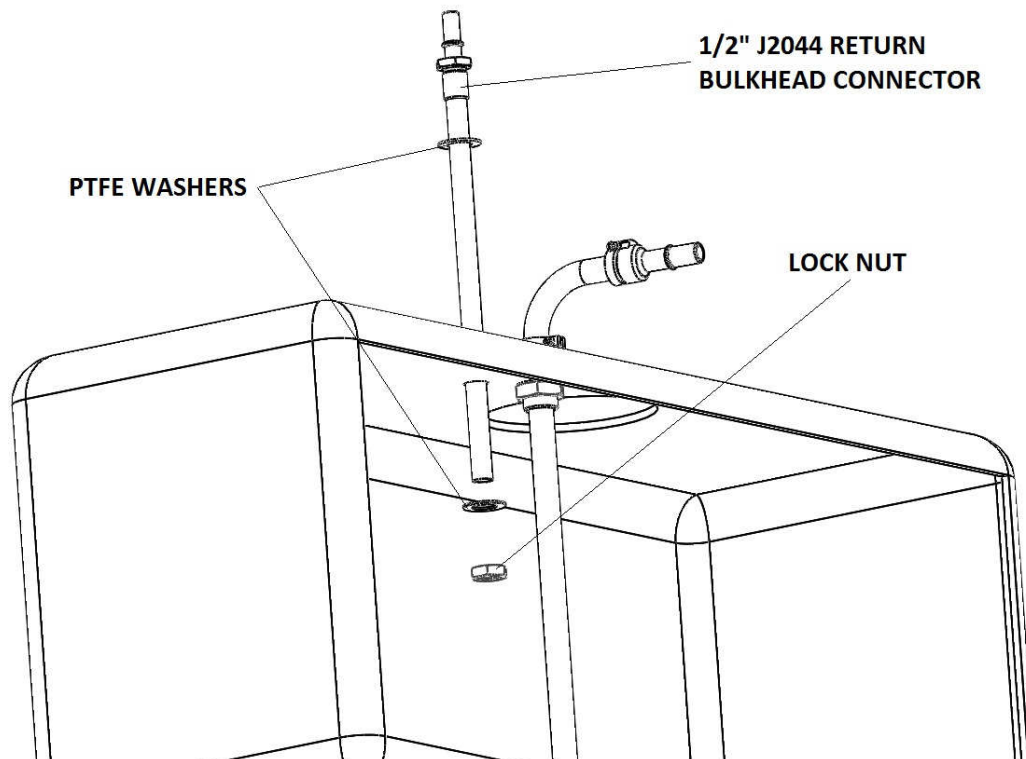

FIGURE 1-11
14. Measure from the top of the hole you just drilled to half way down the black Aeromotive basket. Cut the return tube assembly to length. Insert it into the tank as shown in **FIGURE 1-11**.